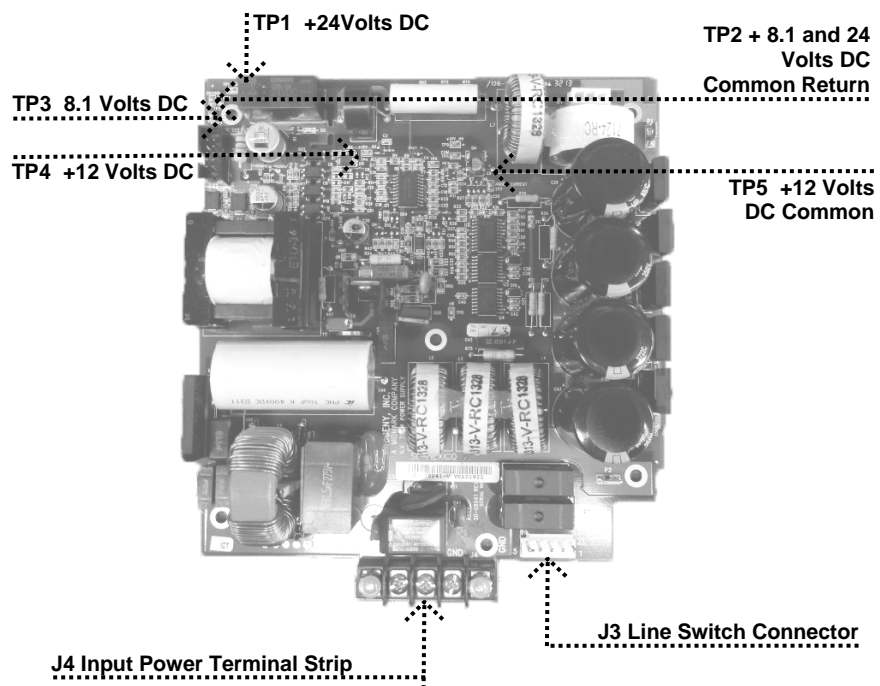

Figure 52
1. On the Power Supply Board 30-08041, check for the presence of 100 to 230 volts AC at J4, the Input Power Terminal Strip, as shown in *Figure 52*. If power is absent, check that the VetPro® DC is connected to line power.
2. On the Power Supply Board 30-08041, measure incoming power at J3, the Line Switch Connector, as shown in *Figure 52*. Positions 2 and 4 carry the line voltage before the Line Switch, and positions 1 and 3 carry the line voltage after the Line Switch. Voltage at the input side of the switch, but not at the output, requires replacement of the Line Switch E1-19000.
6. On the Power Supply Board, use TP2, as a common test point, and check TP1 +24 volts DC and TP3 8.1 volts DC, as shown in *Figure 52*. Then use TP5 as the common return to check TP4 for the presence of +12 volts DC. Should any of these voltages not be present, replace the Power Supply Board. If each voltage is present, inspect the condition of the ribbon cable between the Power Supply Board and the Logic Board. If the cable is undamaged and seated properly, replace the Logic Board.